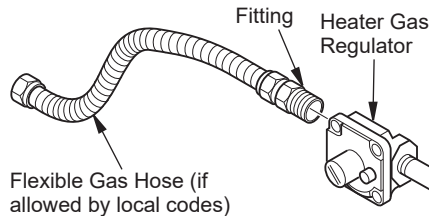

Figure 13 - Attaching Flexible Gas Hose to Heater Gas Regulator
5. Apply pipe joint sealant lightly to fitting threads. Connect approved flexible gas hose to gas regulator of heater (see Figure 13, page 14). *Note: Never apply pipe sealant to flare fitting threads. Hold gas regulator with a wrench when connecting flexible gas hose.*